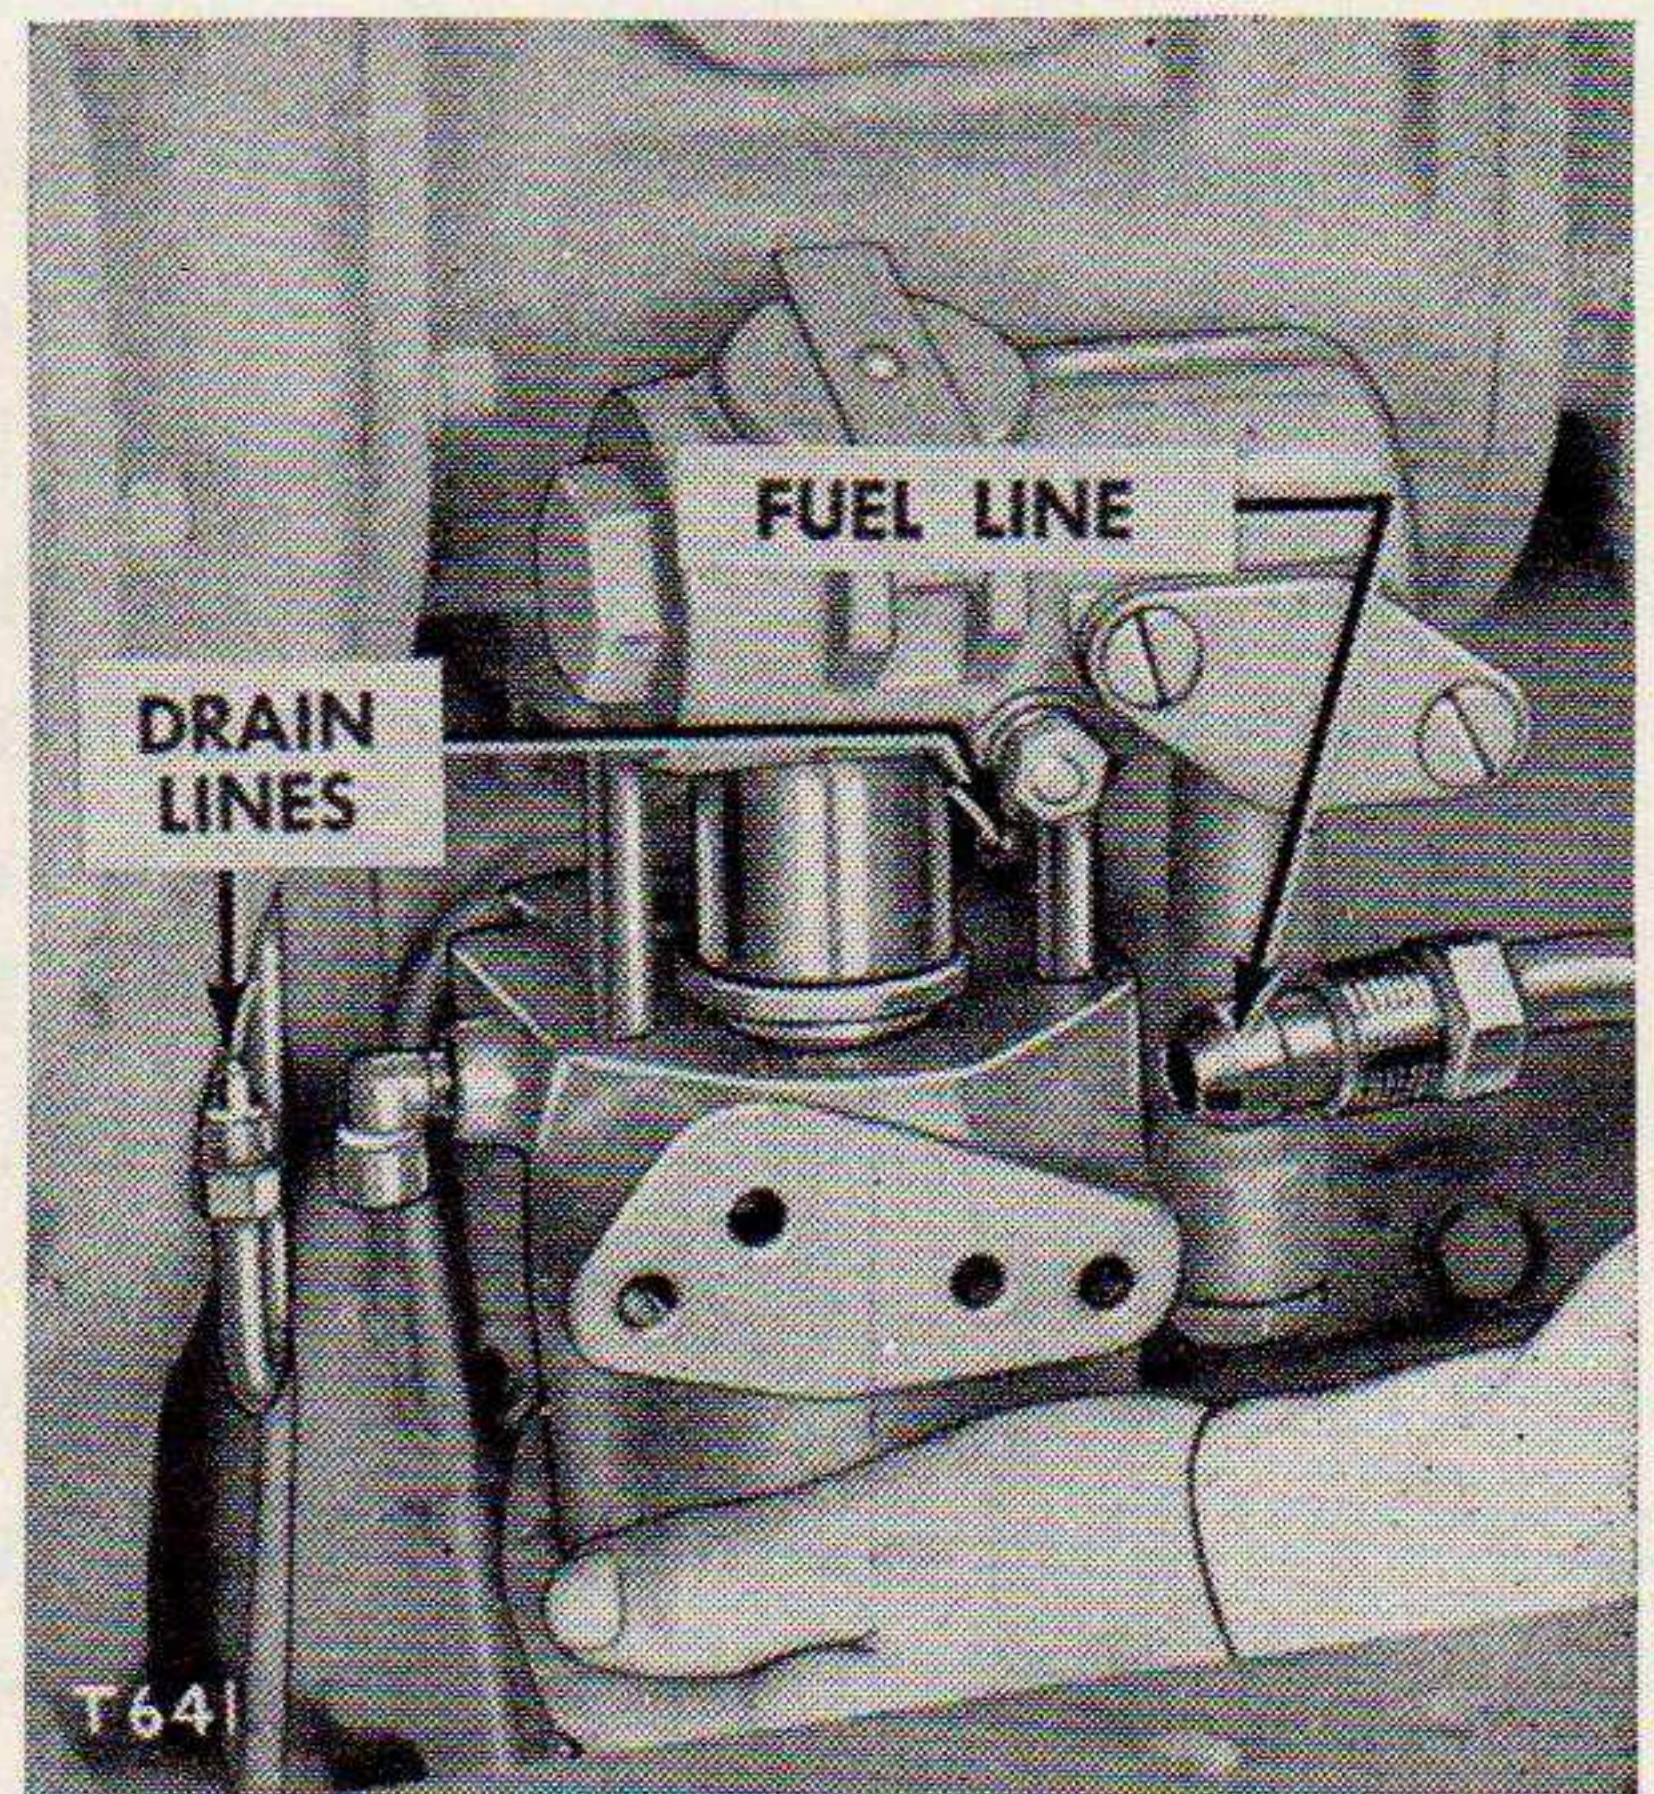

Figure 79. Removing fuel transfer pump (part No. 1F1532).
c. REMOVING FUEL TRANSFER PUMP. (See fig. 79.)
(4) *Remove stud nuts.* Remove the four stud nuts holding the transfer pump to the engine and remove the pump as illustrated in figure 79.